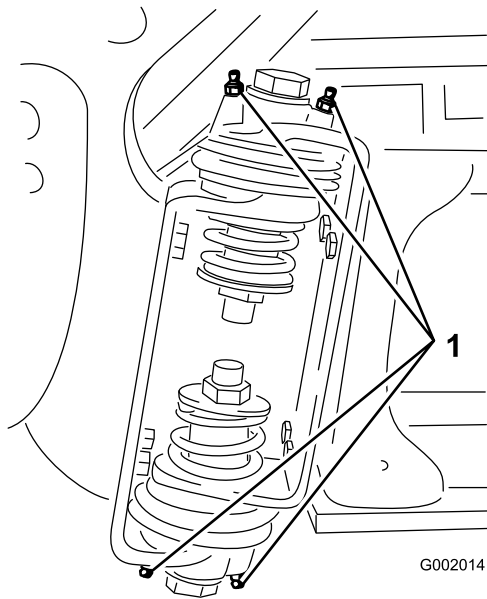

Figure 69
2. Pump grease into the bearing or bushing at each fitting (Figure 69).